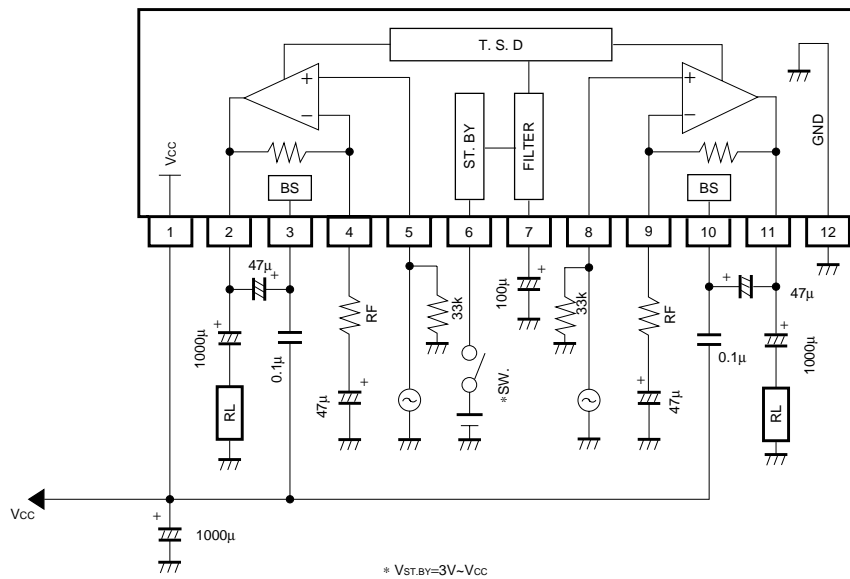

Fig.1
(10) Standard values for the DC voltages on each pin ($V_{CC}=12V$, $T_a=25^\circ C$, measurement circuit : Fig.1)